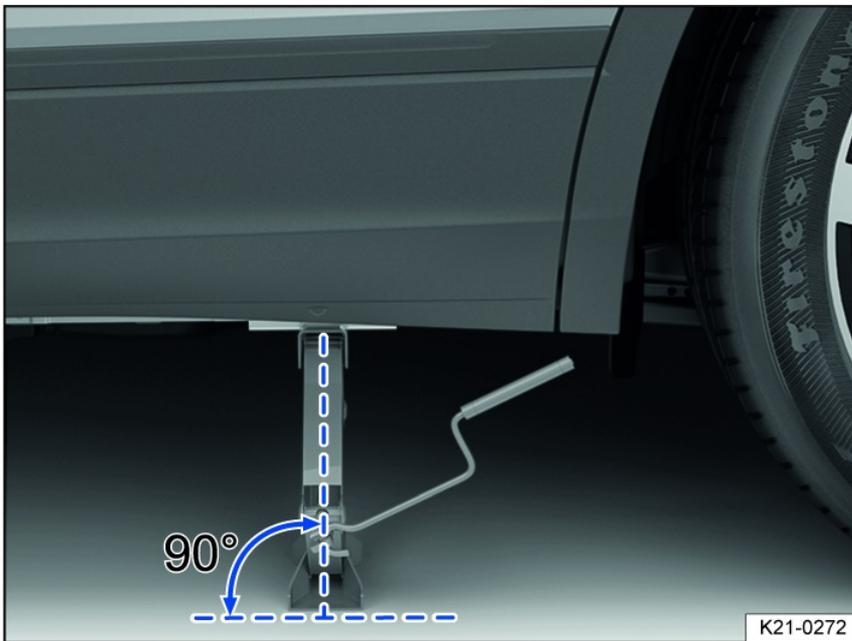
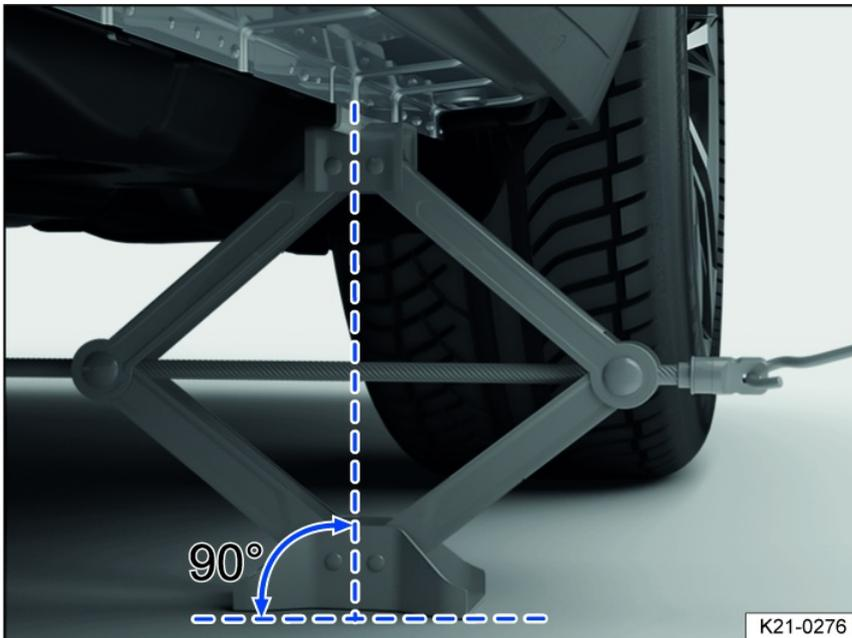

Fig. 220 Correct jack setup.
Fig. 221 Jack is positioned on the left side of the vehicle at the rear.
12. Make sure the entire base of the jack is seated securely on the ground and that the base of the jack is located exactly directly below the lift point *fig. 220* and *fig. 221*.
13. Straighten the jack and continue cranking the claw on the top of the jack upward until the claw is positioned on the jacking point under the vehicle *fig. 221*.
- Only place the vehicle jack at the lift points described. The bracket on the vehicle jack must firmly grip the sill *fig. 221*.